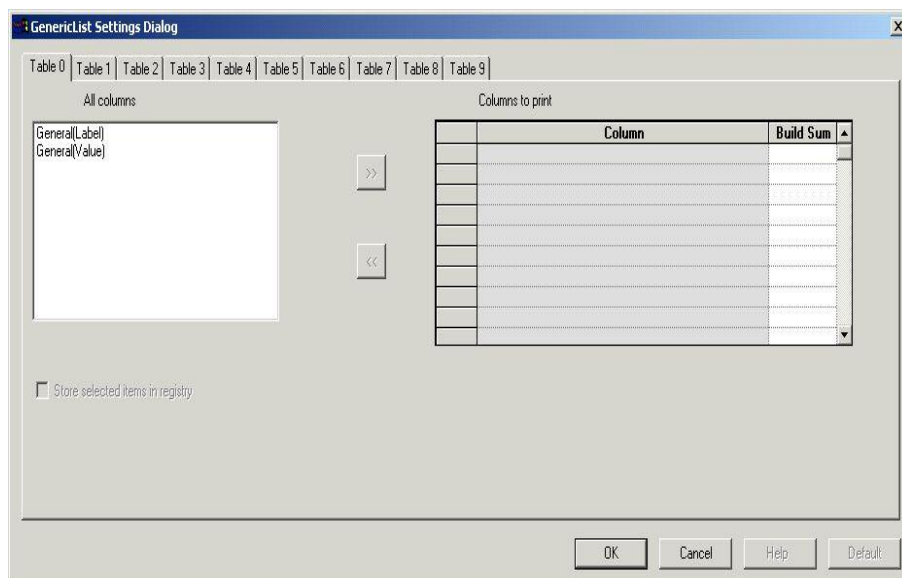
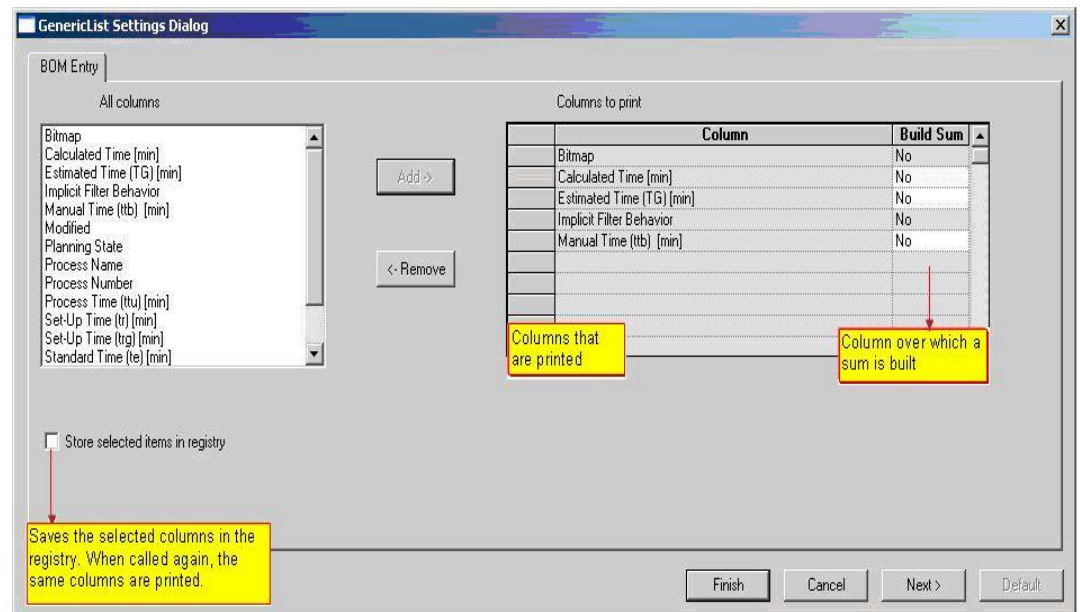

Figure 4: GenericList Settings Dialog
Figure 6: Dialog for Generating Generic List Forms
The (Figure 4) **Generic List Settings** Dialog opens – where you can specify the pages (Register) of the dialog as well as the individual fields of the page. This dialog is only opened if you enable the **Display printing generic list settings** entry in the **Tools < Settings < Change < Printing** tab. If this entry is not enabled, you receive a print preview or a printout of the corresponding data in the **Properties** dialog. Using **GenericList Settings** you can individually design your printout. Please refer to the Figure 6.
- 2) The **Generic List Settings** dialog opens. Here you can specify your output options. Please refer to the Figure 6.